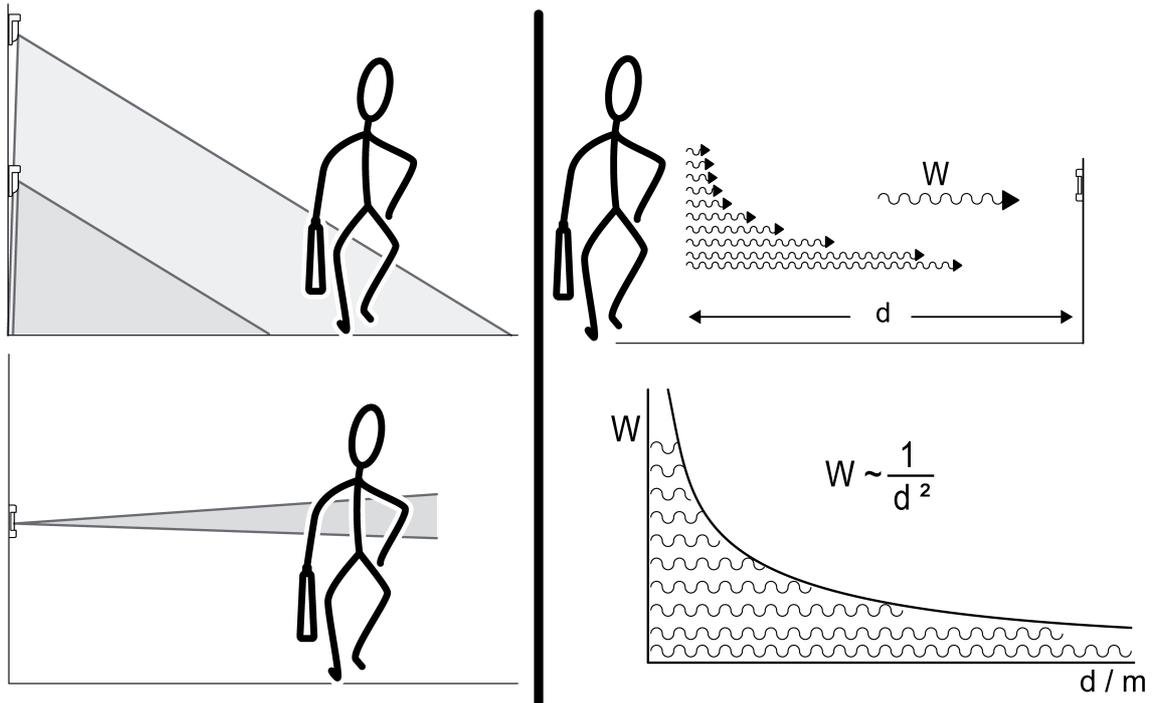

Figure 4: Detection of heat sources – detection field geometry and distance (photometric distance law)
A motion detector that faces downwards at an angle is different from one that looks straight ahead into infinity (Figure 4).
- Distance between heat source and motion detector: the further away the heat source is from the sensor, the weaker the evaluable signal on the sensor (Figure 4).